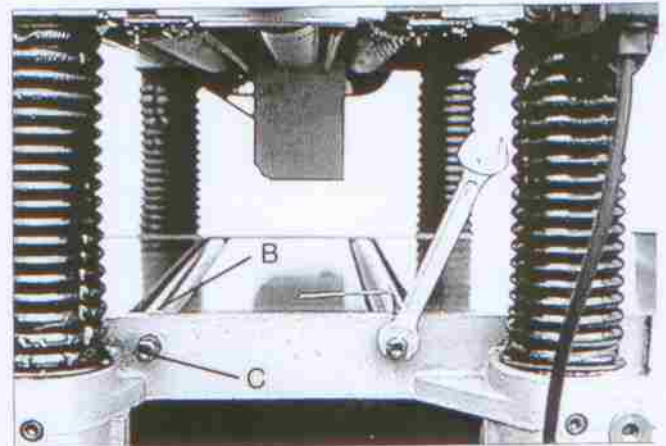

Fig.15
- 2.Lay straight edge Fig.15 across both rollers,loosen the screws(B)Fig.15,and turn the eccentric shafts(C)to raise or lower the table rollers,when the proper height is obtained,tighten screws (B) as shown in Fig.15. Table rollers must be adjusted on the opposite end of table in the same manner.